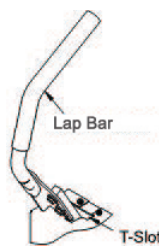

Fig. 7 Neutral Lock Position
- When the lap bars are in the middle of the T-slot, it is in the neutral position (electronic brake); if the lap bars move outward, it is in the neutral lock position (electromagnetic brake); see Fig. 7.